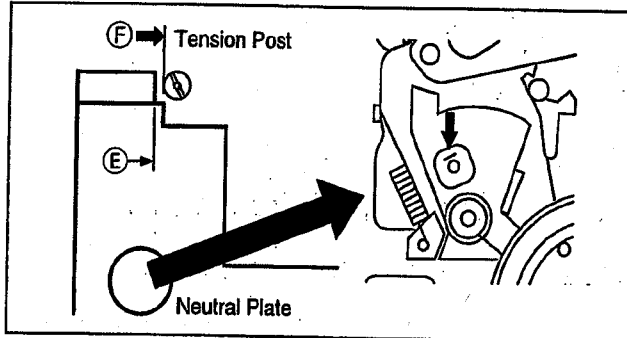

Fig. A12
2. Turn the Mode Gear to set the Mechanism position in the Play mode, the Soft Brake of the Pad Arm Unit just touch to the Supply Reel Table as shown in Fig. A12.
4. Adjust the adjustment piece on the Pad Arm Unit to clockwise direction slowly until the surface of the Tension Post comes to 2nd step (F) on the Mechanism Plate as shown in Fig. A12.